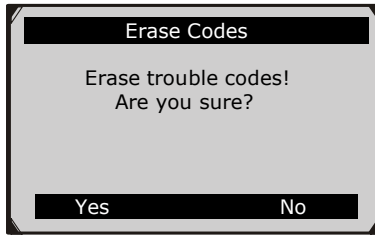

Figure 6-6
- 2) A warning message comes up asking for your confirmation. (Figure 6-6)